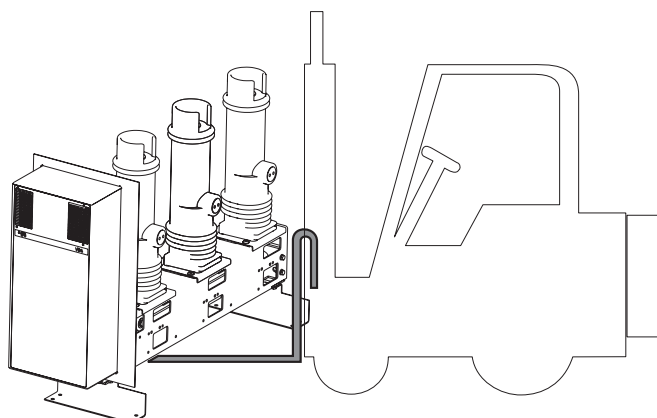

Fig. 3
The apparatus must not be handled by putting lifting devices directly under the apparatus itself. Should it be necessary to use this technique, put the circuit-breaker onto a pallet or a sturdy supporting surface (see fig. 3). In any case, it is always advisable to carry out lifting using the supports (3).